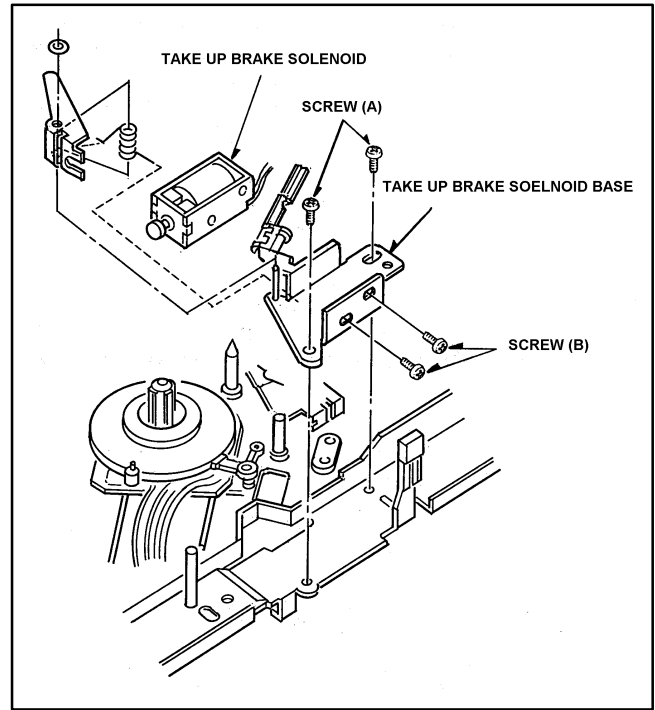

Figure 1-9
1. Disconnect the **connector (A)** on the **P.C.Board (B)**. (Refer to above chart.)
2. Unscrew the 2 screws (A) and remove the Take Up Brake Solenoid Base Unit as shown in Figure 1-9.
3. Unscrew the 2 screws (B) and remove the Take Up Brake Solenoid from Take Up Brake Solenoid Base Unit as shown in Figure 1-9.
Hang on the Take up Brake Spring as shown in Figure 1-9.